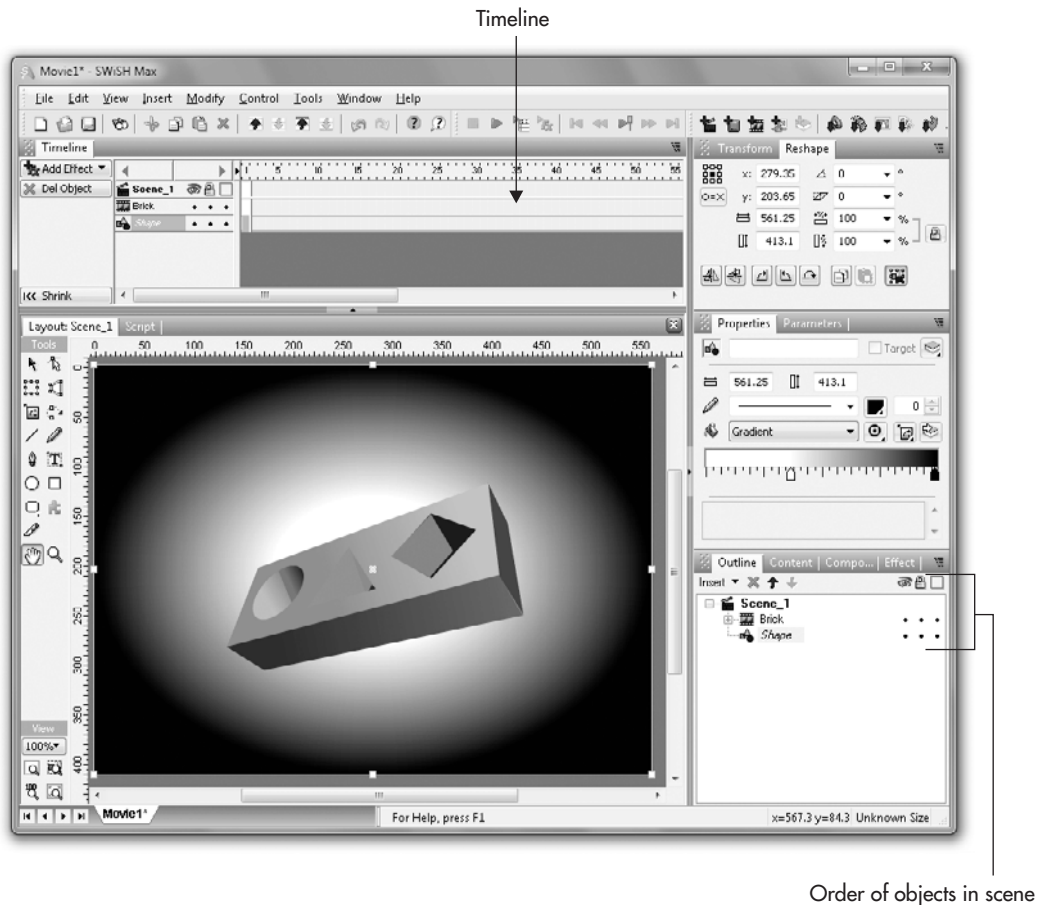

FIGURE 28-13 The brick imported object is in the scene, on top of the background you created.
10. In the Import dialog, Animated Movie Clip is the only button that needs to be clicked—SwishMiniMax doesn't know the file isn't an animation, and you're not going to tell it. Click Import, save the file again, and take a break for a moment. Your screen should look like the one in Figure 28-13.